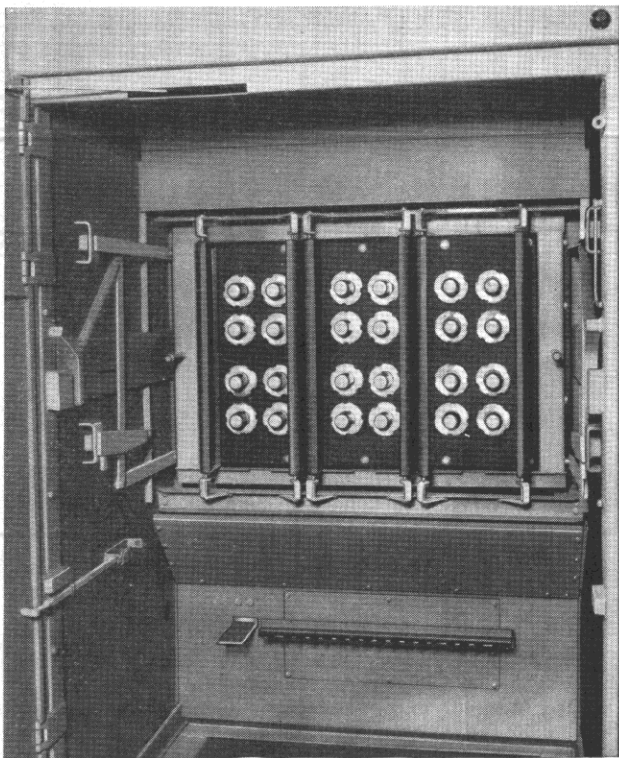

FIG. 21. Automatic Shutters in a Type DA-100, 4000-Ampere Compartment—Open Position
**Stationary Structure.** The front circuit breaker compartment is similar to that supplied for DA-75 switchgear except that there are no side rails for rolling in the removable element. The removable element truck is equipped with wheels which rest on the bottom steel members of the compartment when the element is in place. The same safety interlocks are furnished as described for the DA-75 circuit breakers. See Figs. 21 and 22 for the automatic shutters supplied as optional equipment on DA-100 switchgear.